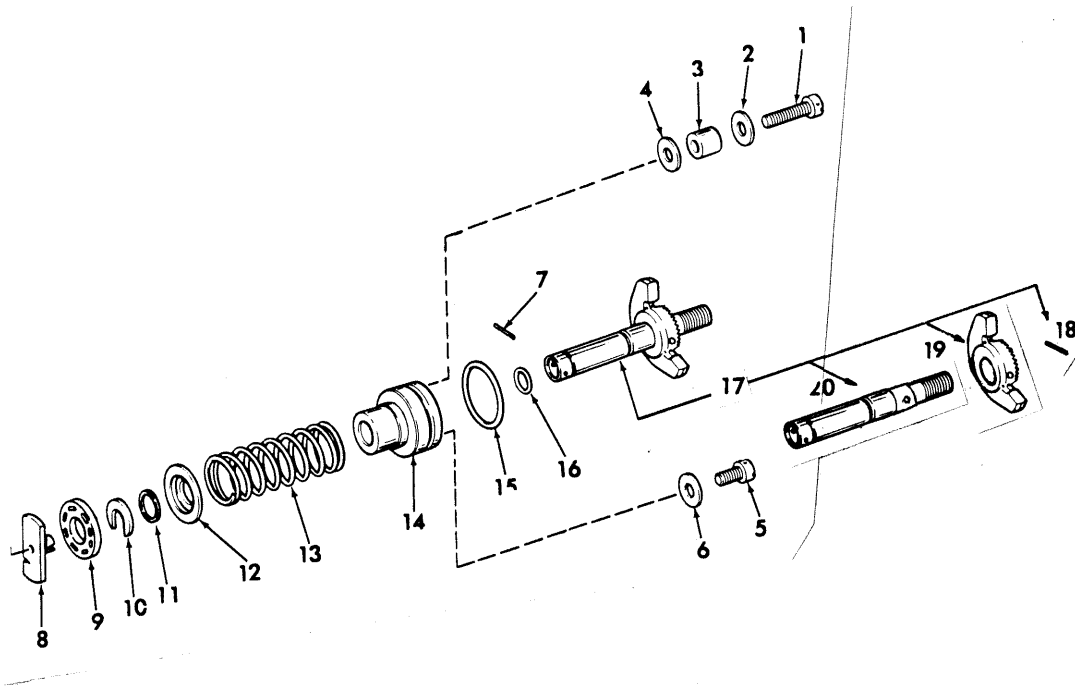

Figure 1. Mixture Control Shaft Assembly
A. Refer to latest applicable overhaul manual for exploded view of fuel injector. See Figure 1 this Bulletin for exploded view of mixture control shaft assembly.
(1) Remove screws (1 and 5, Figure 1), washers (2 and 6), spacers (3) and washer (4). Discard washers (4 and 6).
(2) Disassemble mixture control shaft assembly as follows:
Key to Figure 1
- b. Remove mixture control plate (8, figure 1).
- c. Remove mixture control bushing (9).
- d. Remove C-washer (10).
- e. Remove non-metallic washer (11).
- f. Remove spring holder (12).
- g. Remove spring (13).
- h. Remove mixture control sleeve bushing (14, figure 1) and discard.
- (2) Rework stop (19, figure 1) per following: